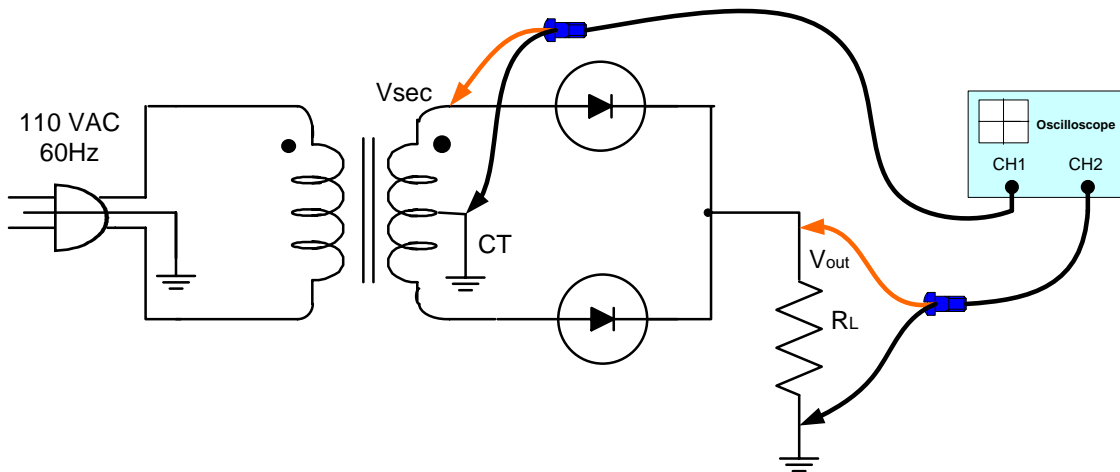

Figure 3
2. Connect the full wave rectifier circuit shown in Figure 3. Use $R_L=2.2\text{K}$. (Precaution: the ac line voltage must not be exposed; the transformer should be fused properly). Notice the polarity of diode. The line indicates the cathode side (the negative side). Connect the oscilloscope so that channel 1 is across the transformer secondary and channel 2 is across the output (load) resistor. The oscilloscope should be for “LINE Triggering” as the waveform to be viewed in this experiment is synchronized with the ac line voltage.